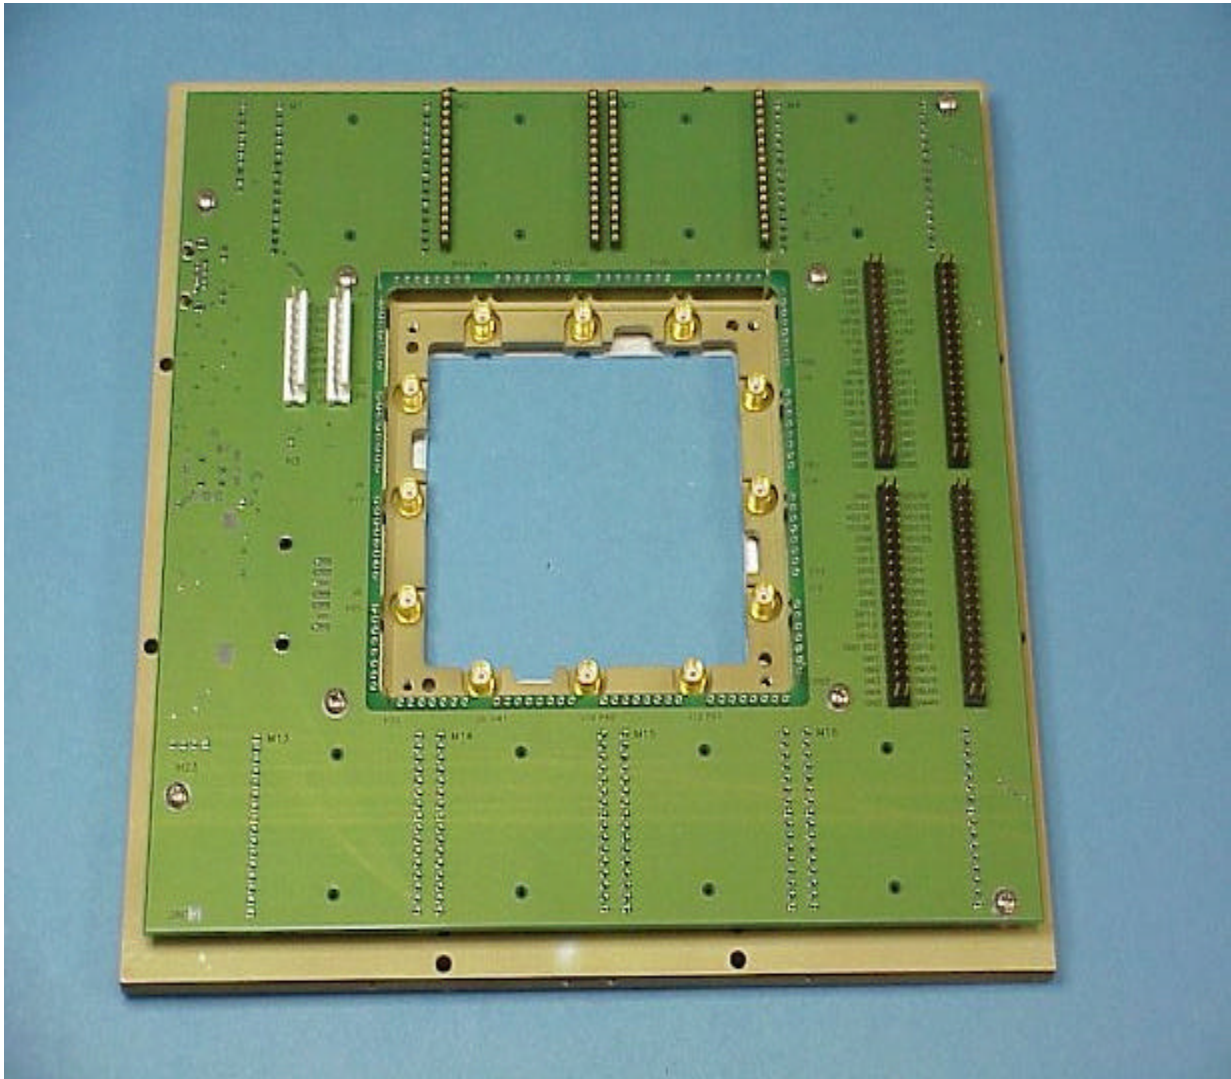

Figure 4
2. After pogo pin installation, attach the **carrier board** to the **Aluminum top plate**, RiK0012A, with the lettering visible (See Figure 4).